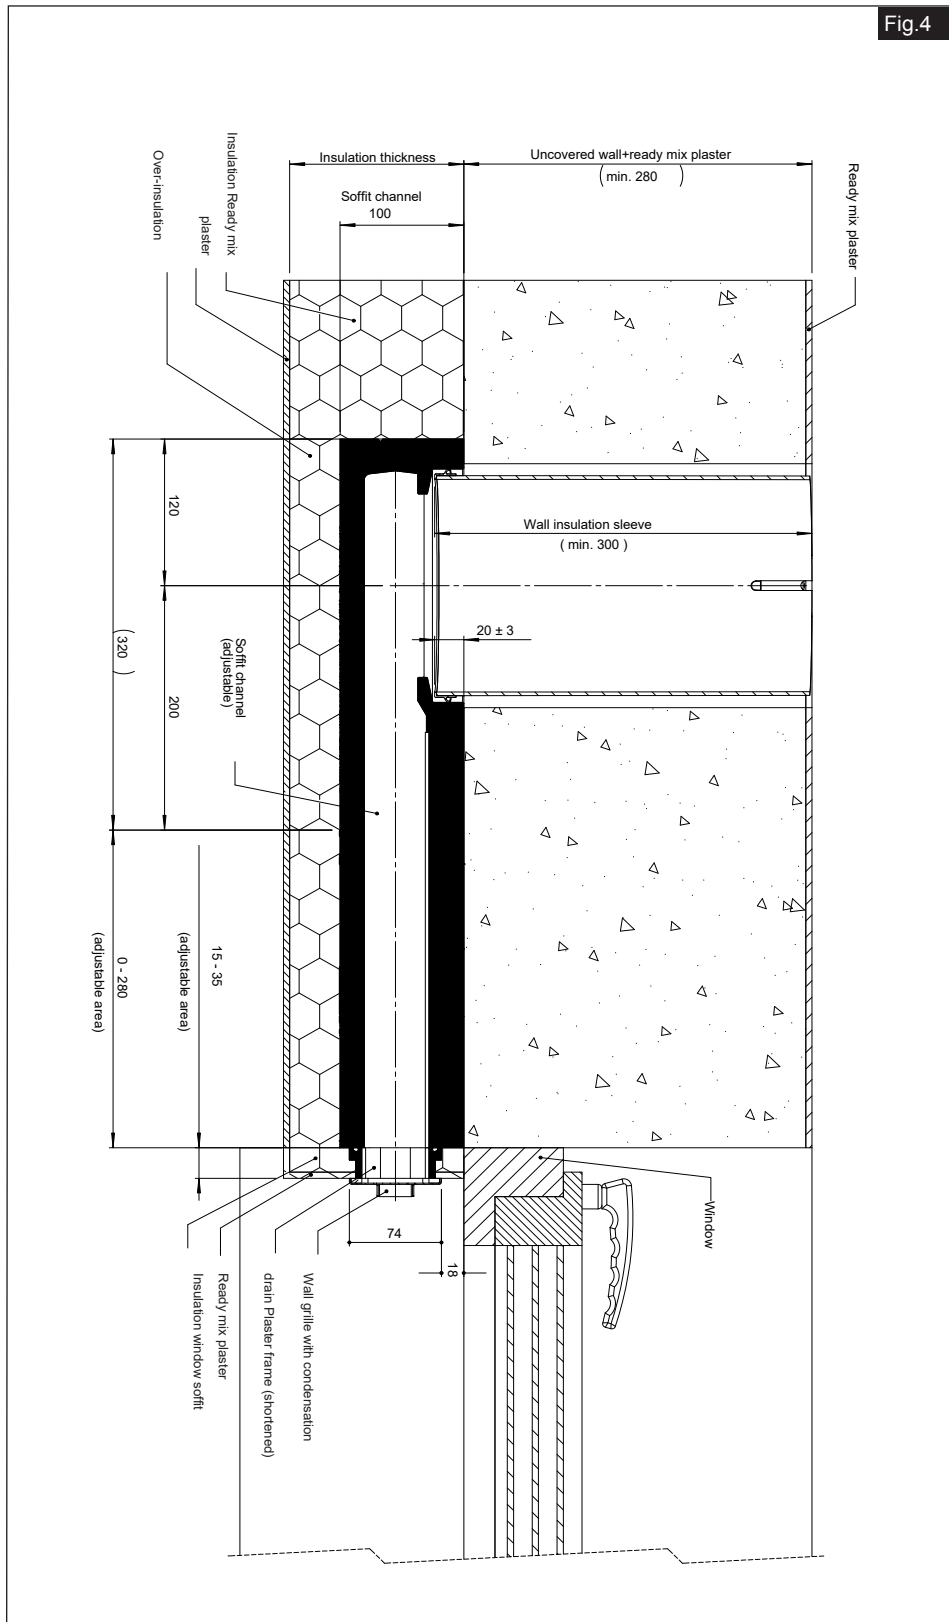

Fig.4
5. Note the installation instructions for shutters and blinds in Figure 4!
The length of the wall installation sleeve comprises the thickness of the uncovered wall with internal ready-mix plaster, the height of the feet (③) of the soffit channel and the immersion depth (②) in the soffit channel (see Fig. 4 & 5).
4. Determine dimensions for wall installation sleeve and soffit element (see chap 4.0 Installation overview soffit element). Note interfering contours! The shutter rail or the like must pass over the wall grille, see Fig. 4.